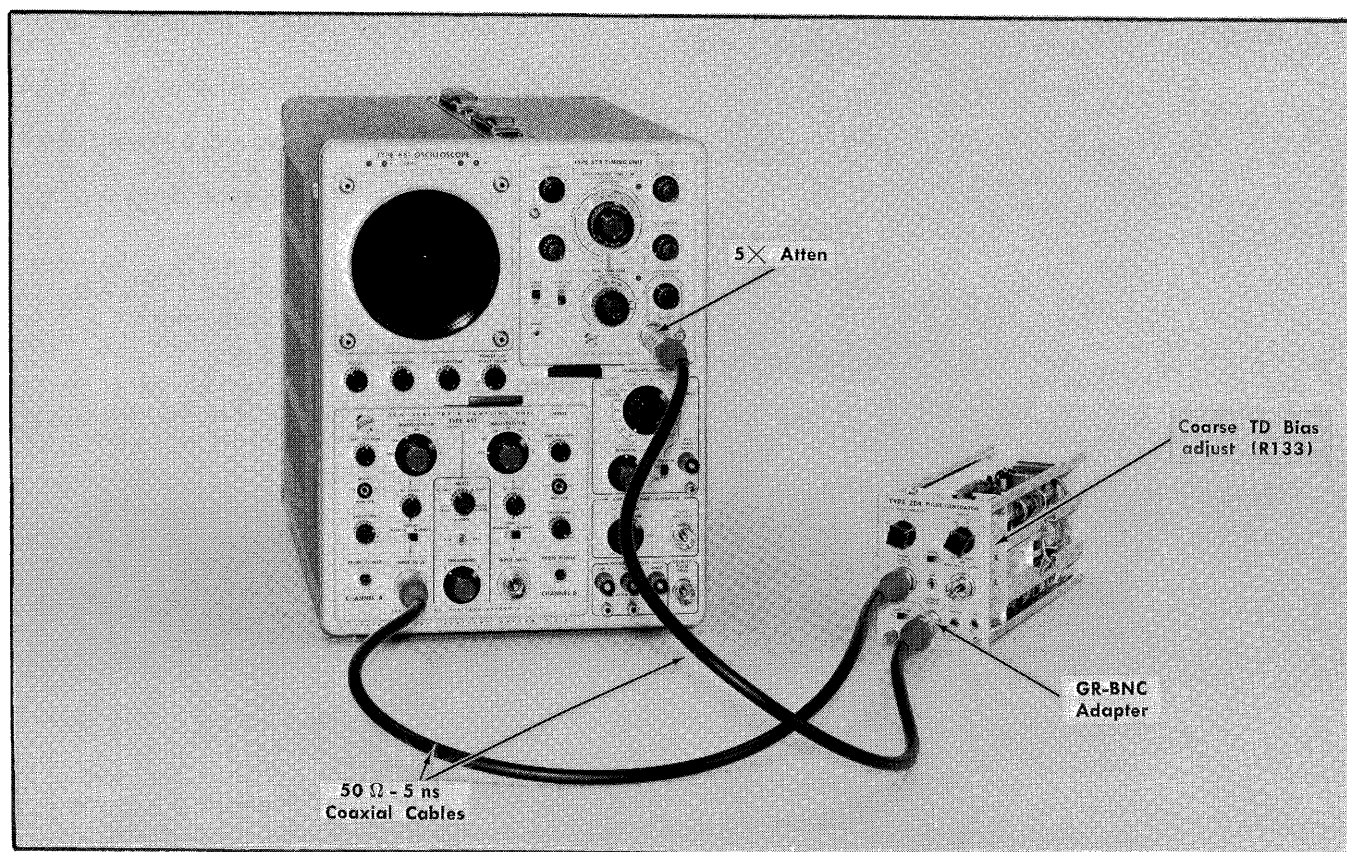

Fig. 6-25. Equipment setup for steps 15 through 24.
a. Use equipment setup in Fig. 6-25. Connect the PULSE OUTPUT signal from the Type 284 through a 5 ns coaxial cable to the Channel A Input 50  $\Omega$  connector on the Type 451. Connect the TRIGGER OUTPUT signal from the Type 284 through a BNC to GR adapter, a 50  $\Omega$  coaxial cable, and a 5 $\times$  attenuator to the Ext Input 50  $\Omega$  connector of the Type 5T3.
- a. Use the equipment shown in Fig. 6-25, but connect as follows: Use two identical 50  $\Omega$  coaxial cables, one to connect the TRIGGER OUTPUT signal through a BNC to GR
a. Use the equipment shown in Fig. 6-25, but connect as follows: Use two identical 50  $\Omega$  coaxial cables, one to connect the TRIGGER OUTPUT signal through a BNC to GR adapter to Channel A Input 50  $\Omega$  connector; and one to connect the PULSE OUTPUT signal to Channel B Input 50  $\Omega$  connector.